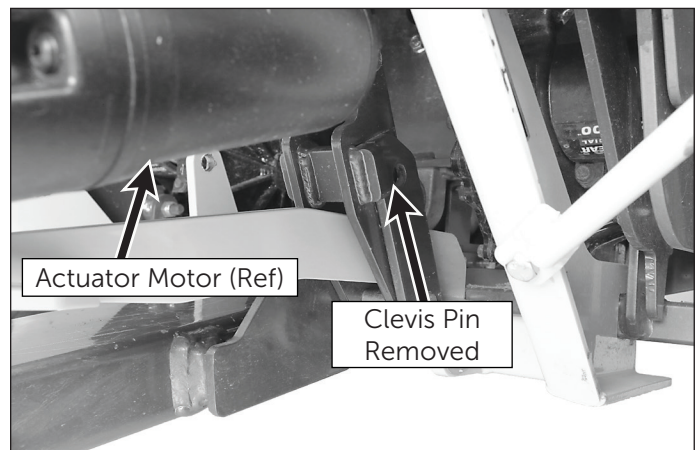

Figure 2.10: Float Setting With Clevis Pin Removed
- **Floating:** Remove the bowtie cotter pin, and remove the clevis pin from the rear actuator mount (Figure 2.10). Removing the clevis pin will allow a free floating implement.